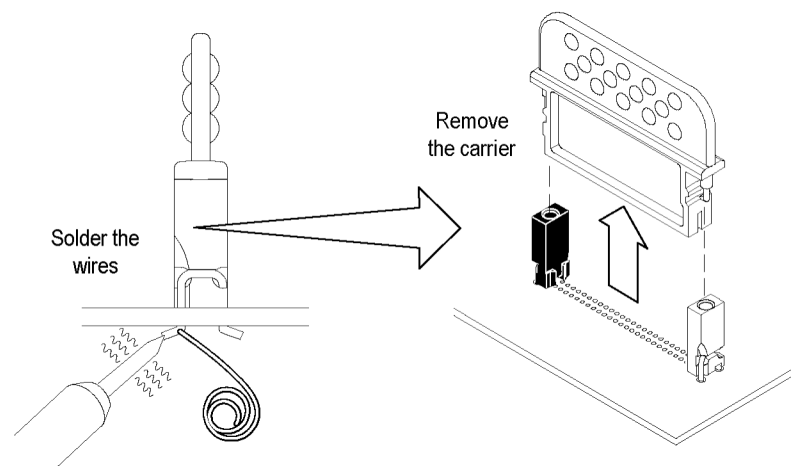

Figure 10: Soldering the retention posts in the PCB
- Solder the posts to the PCB. (See Figure 10 on page 13.) The posts can be soldered from the top or bottom of the circuit board, but it is best to solder the bottom to avoid the heat-sinking effects of the posts on top.